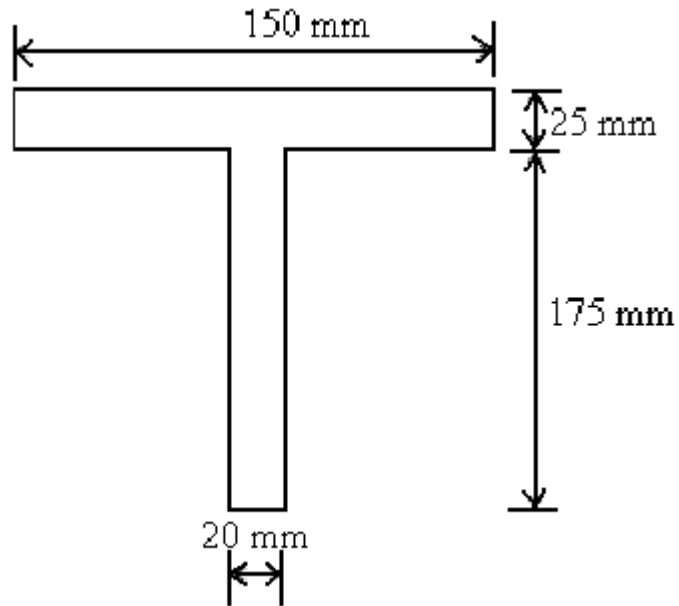

Figure 8:
5. Determine the Euler's critical load for a steel strut of T-section shown in Figure 8. The length of the strut is 5.2 m and both ends hinged. [15]